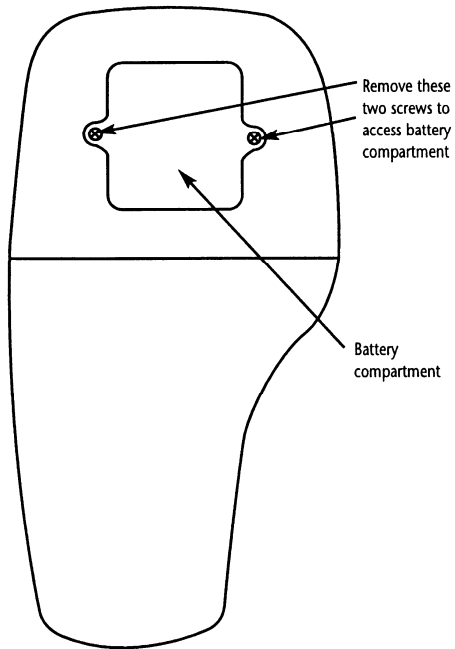

Figure 3 - Back panel of meter showing battery compartment
1. Use a Philips screwdriver to remove the two screws holding the battery cover. See Figure 3 below.